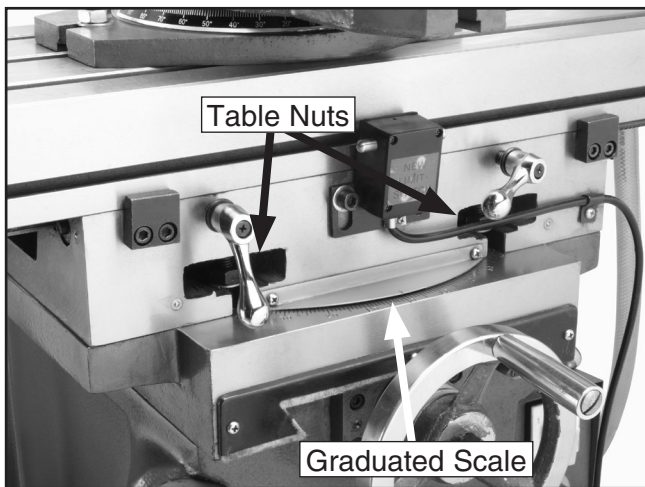

Figure 25. Front two table nuts.
3. Loosen four nuts, two in front and two in back, to free the table for rotation (see **Figures 25 & 26**).